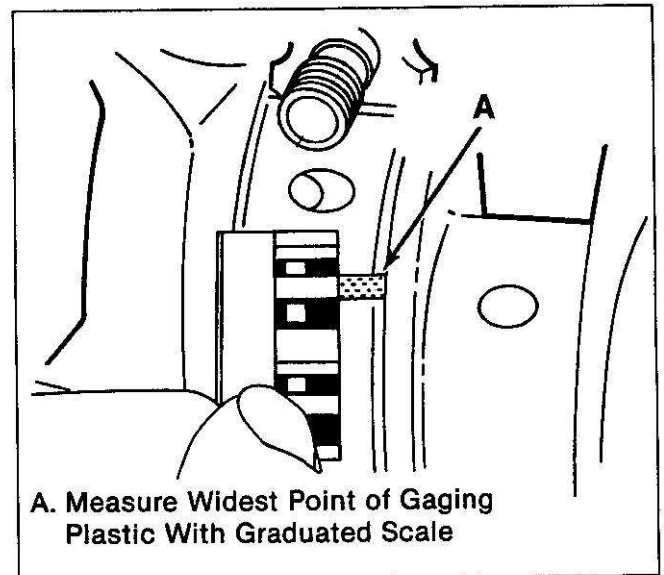

Figure 69. Measuring the Gaging Plastic
- Gaging plastic at its widest point, using the scale at the gaging plastic envelope (figure 69).
- If the clearance exceeds specifications, select a new, correct size connecting rod bearing (88) and remeasure the clearance.